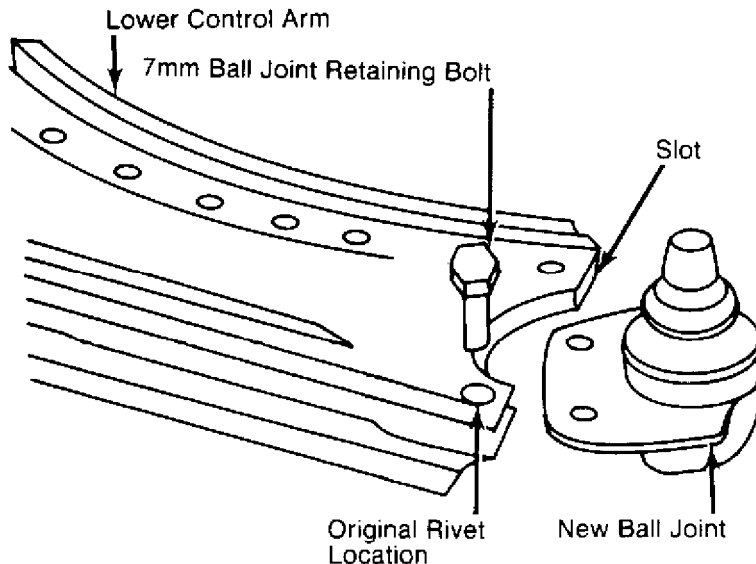

Fig. 3: Installing Lower Ball Joint
2) If control arm is not to be removed and ball joint is riveted to control arm, drill out ball joint rivets using a 9/32" (7 mm) drill. After drilling rivets, chisel off rivet heads if necessary. Remove ball joint. See Fig. 3.